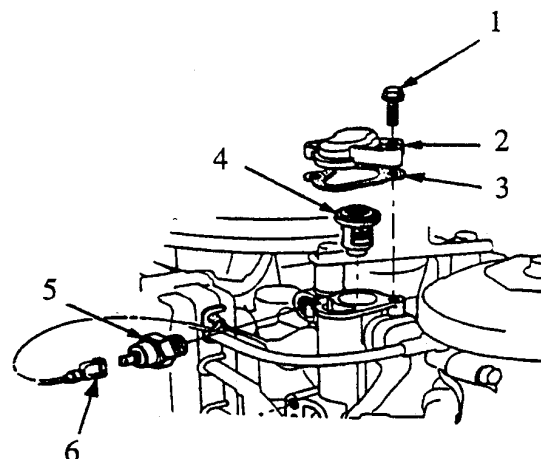

Fig. 11-2 Thermostat and thermo switch
Remove the two 6 x 20mm screws (1) securing the thermostat cover (Fig. 11-2).
The switch is located next to the thermostat housing (Fig. 11-2).